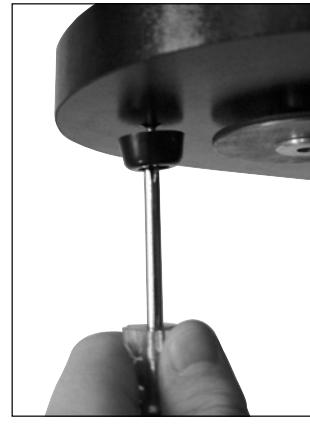

Figure 4. Install the bumper into the pilot hole above the altitude encoder assembly.
2) There is a pilot hole above the 5/8 through-hole in the right side panel's interior surface; this is where the plastic bumper that protects the altitude encoder assembly will be installed. Take the remaining wood screw, push it through the bumper, and thread it into the pilot hole until tight (Figure 4).